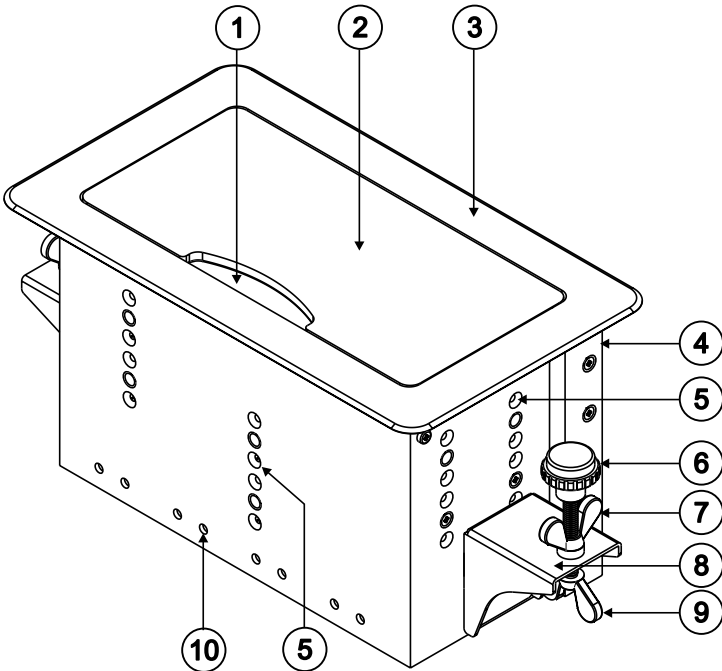

Figure 2: TBUS-6W Table Connection Bus (Top View)
Figure 2 and Table 1 define the unit.
2. Take the support brackets under the table and place them into the support bracket grooves on both sides of the unit (see *Figure 2*).